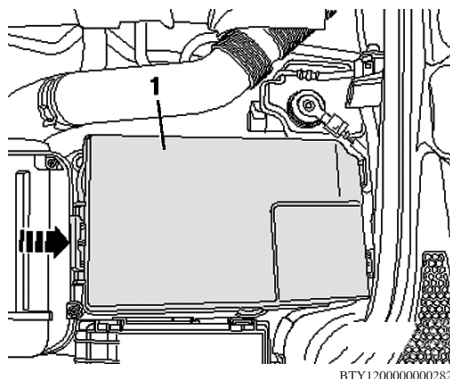

Fig. 1 Battery cover removal
4. Remove battery cover (1) by pressing release button (arrow), **Fig. 1**.